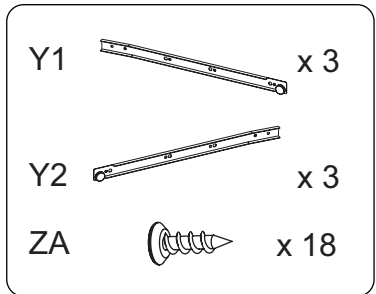

**Fig. 1**
1. Spread a thin layer of glue in the three dowel holes in the ends of the Left Side (B) and the Right Side (C). Insert three wood dowels (ZI) into each side panel as shown in Figure 1 and gently tap with a padded hammer. Quickly wipe away any excess glue.